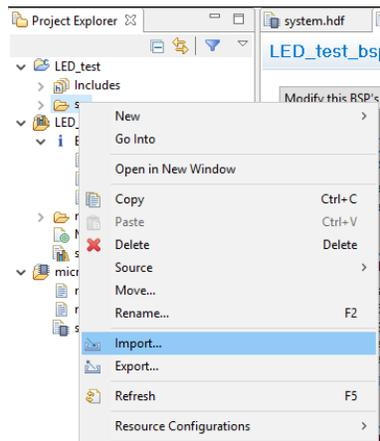

Figure 16: Import source files into project.
- In the *Project Explorer* panel, expand newly-created project **LED_test** and highlight the *src* directory. Right-click and select **Import...** as shown in Figure 16.